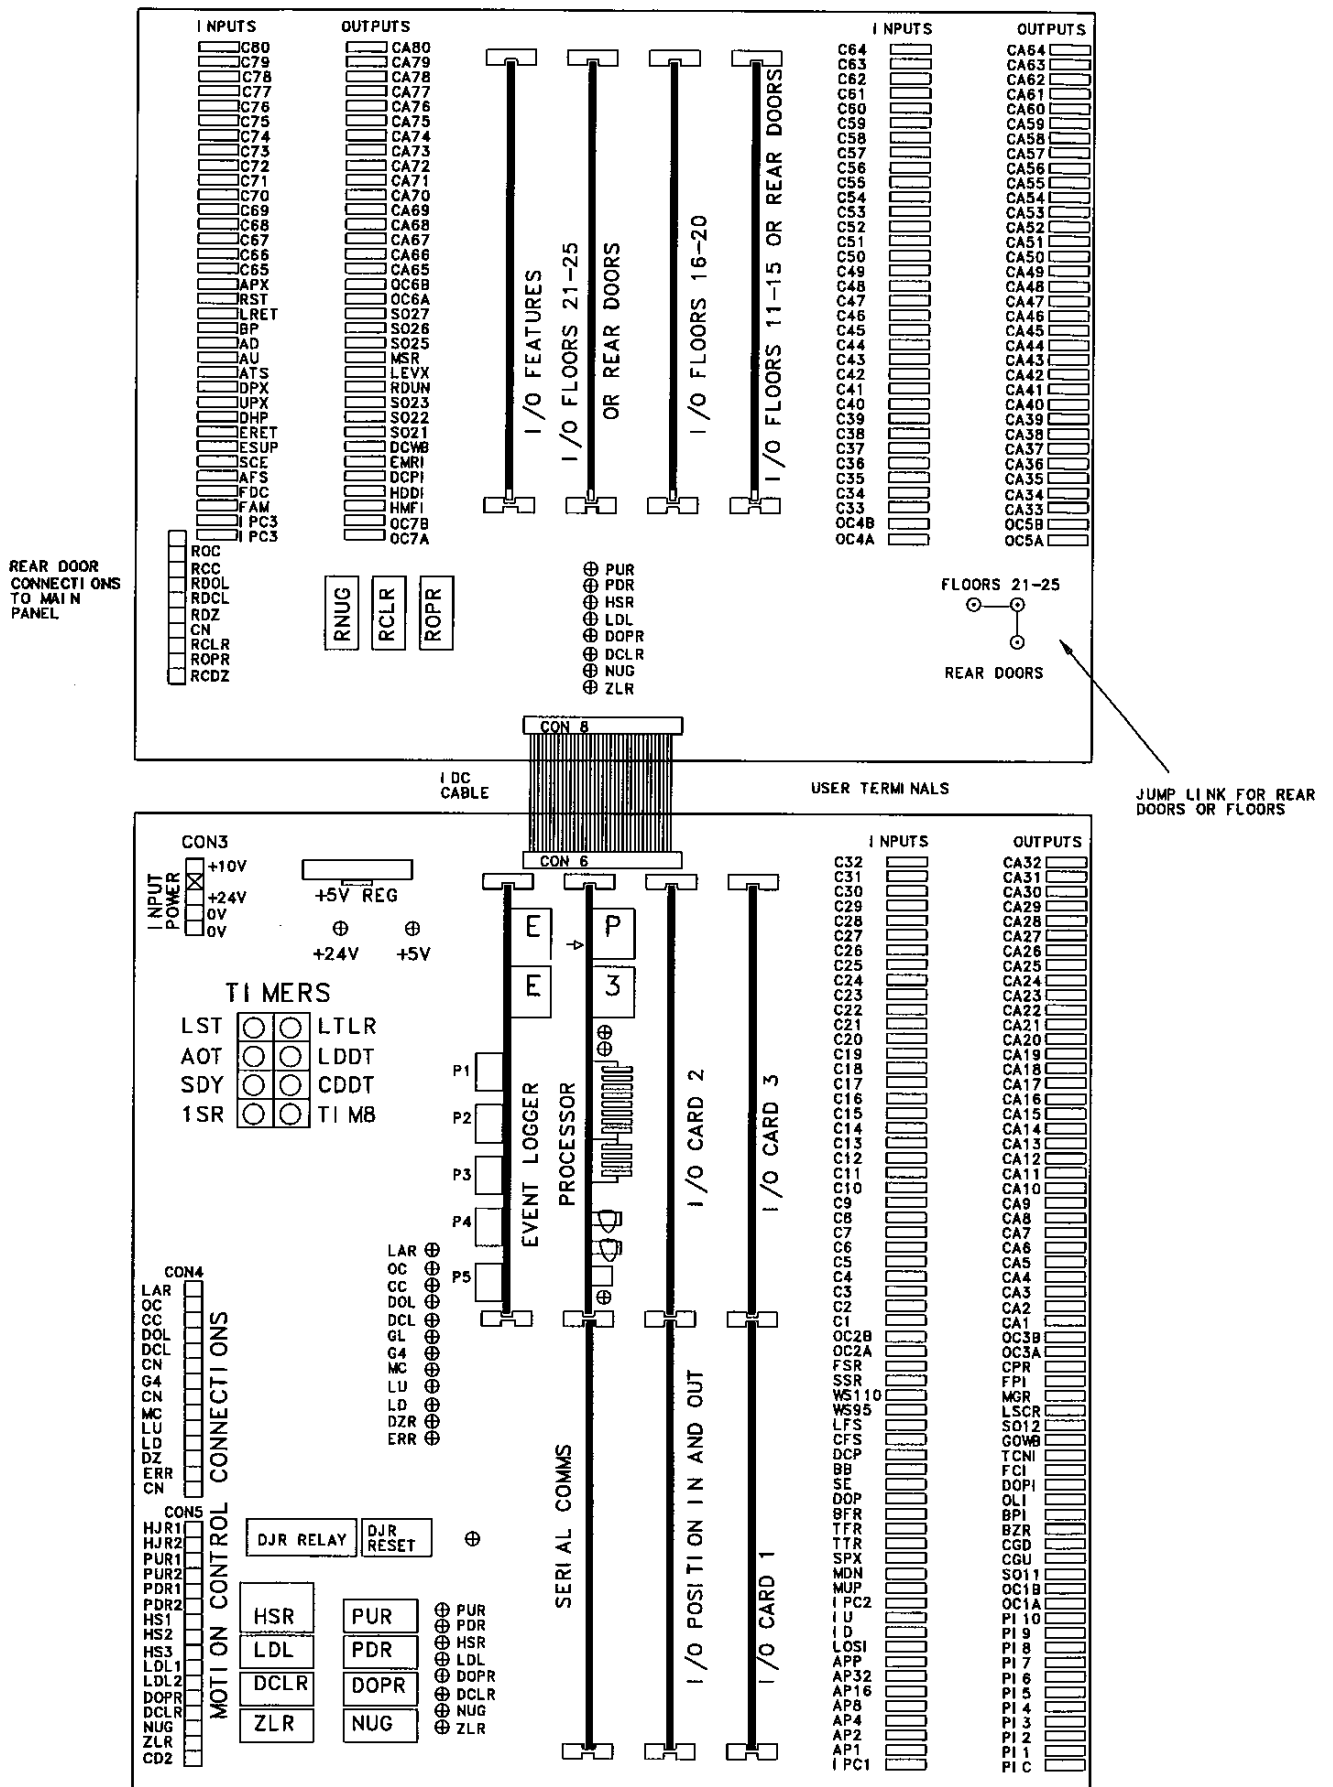

FIG 1.2 GENERAL ARRANGEMENT WITH FULL EXTENSION
The external wiring for the Microprocessor controlled system is as shown in Fig 1.2.
MICROPROCESSOR CONNECTIONS TO THE SYSTEM (Ref. Fig 1.2)
e) On the I/O cards, any of the top 16 red LED's illuminated shows that an incoming signal is present (refer to Para 2.11 for signal notations). Any of the bottom 16 LED's indicate that an output relay has been energised (refer to Fig. 1.2 and section 2 paragraph 2.12).